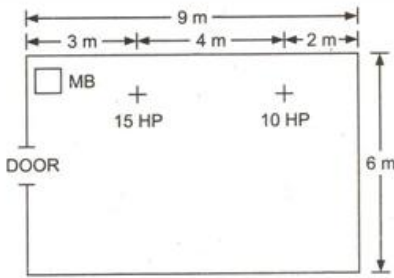

Fig 5.1
- 5 Two ac, 3-phase, 415 V, 50 Hz squirrel cage motors are to be installed in a workshop. The rated outputs of the motors and their locations are shown in fig 5.1. Star-delta starters with each motor are to be installed on the wall. The supply company's meter will be located at the position marked. The wiring of the machines is to be carried out according to IE rules. **Make a neat sketch of the wiring scheme with the help of a single line diagram indicating on the wiring diagram the number and size of cables and conduit used.**